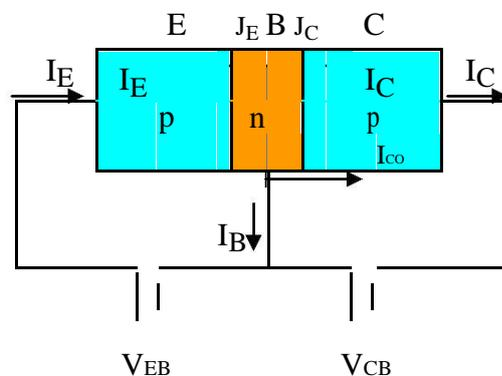

Fig 2.6 Transistor in active region
- Consider a pnp transistor operated in active region as shown in Figure 2.6